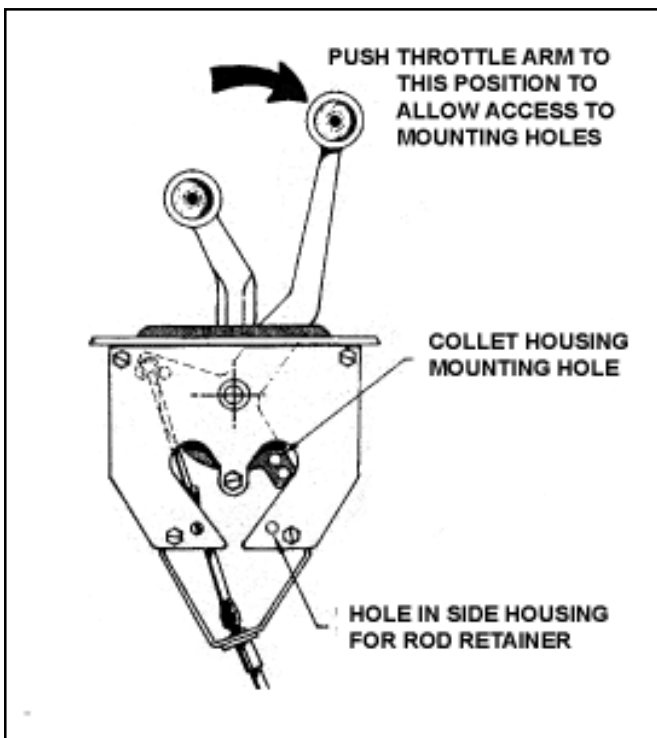

FIGURE 7
2. Pull the throttle arm back so that the holes in the mounting arm are accessible as shown in Figure 7.